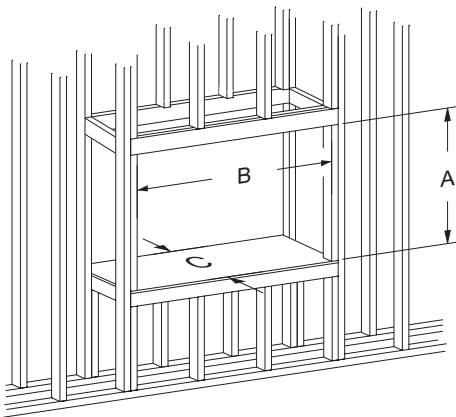
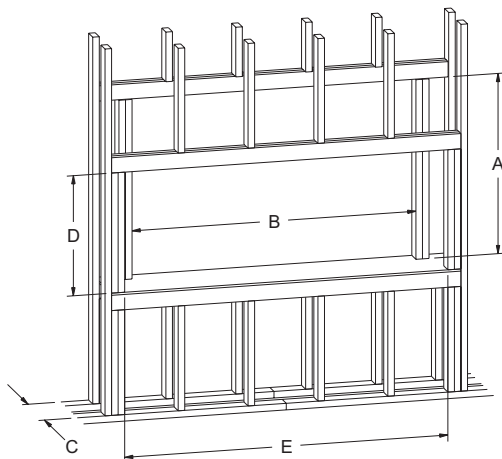

Figure 13 - Rough Opening for Elevated Installation
Figure 14 - Rough Opening for Elevated Installation
- Use **Figure 13** for installation on interior wall and **Figure 14** for installation on exterior wall. Provide support to the bottom of the fireplace.